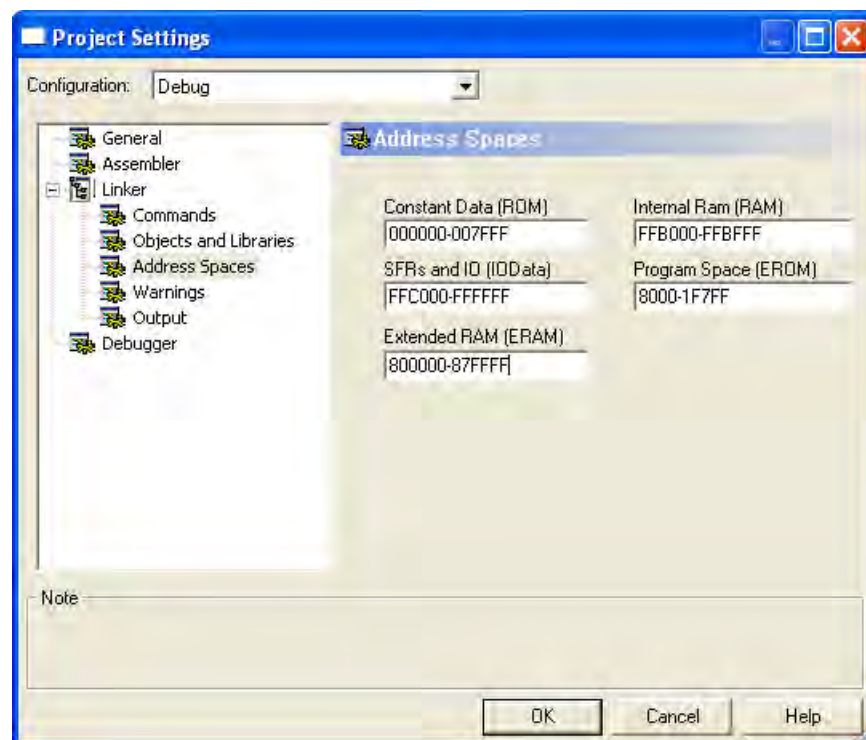

Figure 15. Address Space for Application Code
2. In the left pane, click **Linker**, then **Address Spaces**. The **Address Spaces** panel will appear, as shown in Figure 15.